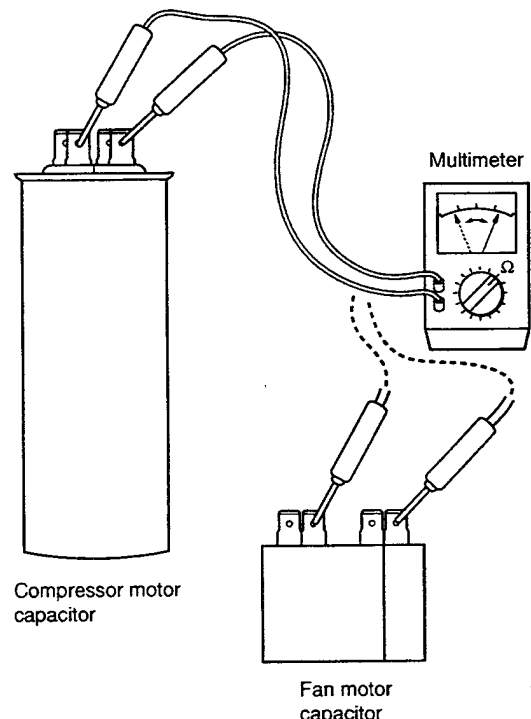

Fig. 11
- Refer to "1-3-(B) Other component specifications".
- ③ **Indoor fan motor (FMI) ..... Indoor unit** \*Measure the coil resistance.
- Refer to "1-2-(A) Major component specifications".
- ④ **Outdoor fan motor (FMO) ..... Outdoor unit** \*Measure the coil resistance.
- Measure the resistance in the same manner as explained above ③.
- Refer to "1-2-(B) Major component specifications".
- ⑤ **Motor capacitor ..... Both in indoor and outdoor unit**
- Remove the lead wires from the capacitor terminals, and then place a probe on the capacitor terminals as shown in Fig. 11. Observe the deflection of the pointer, setting the resistance measuring range of the multimeter to the maximum value.